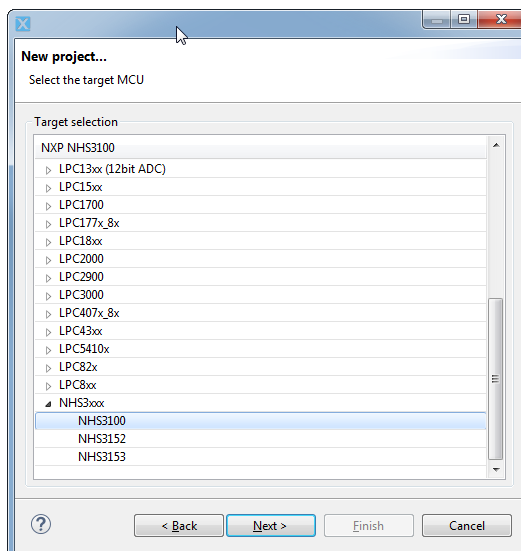

Figure 19: The NHS3xxx plugin expands the list of wizards to choose from
- Select the correct NHS3xxx IC from the list – see Figure 19.